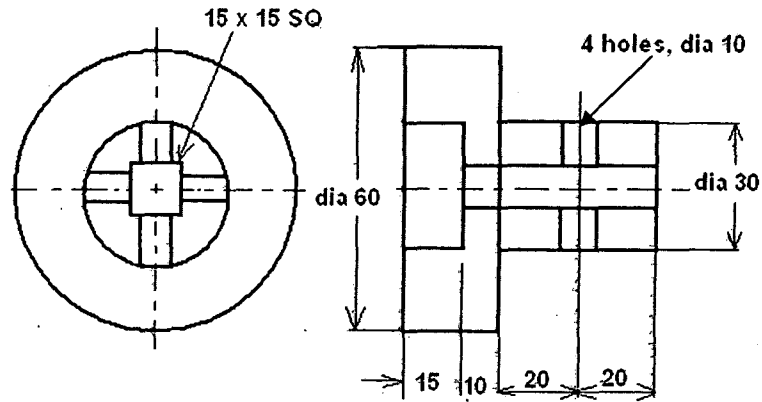

Fig.12.b
12.a) Design a drilling jig for use when drilling the four ϕ 16 holes in the component shown in Fig. 12 a
- i) Give a neat operation chart. (2)
- ii) Draw two views of the Jig. (12)
- iii) Specify appropriate fits and tolerances for critical parts. (2)
- iv) Dimension the views and give a neat parts list. (4)
12.b) Design an indexing jig for use when drilling the 4 ϕ 10 holes in the component shown in Fig.12.b.
- iii) Specify appropriate fits and tolerances for critical part. (2)